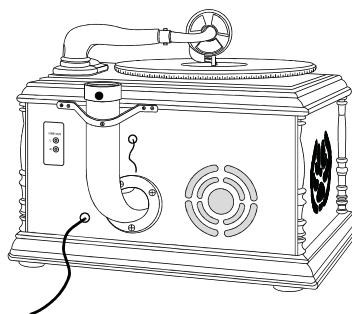

Fig8
- 8.) Look at Fig8. It shows the assembled PTCDCS3UIP host cabinet with the U-type bracket (B) apparatus.